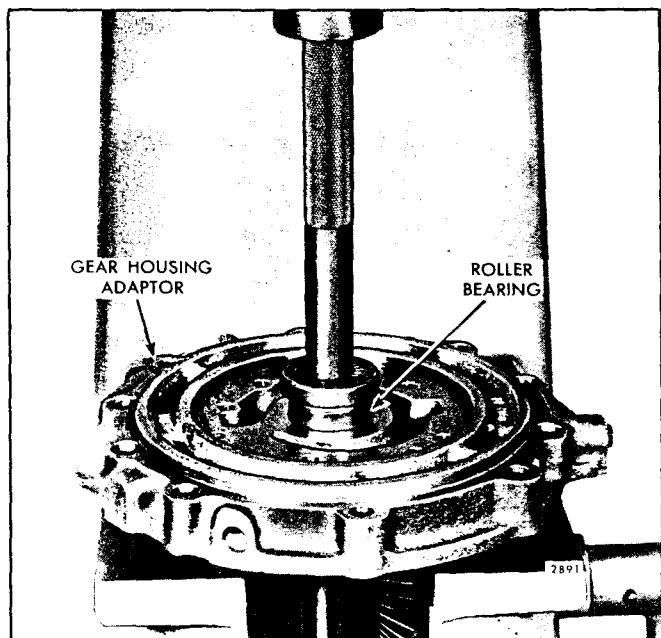

Fig. 75 - Installing Roller (Needle) Bearing in Gear Housing Adaptor
- b. Support the reverse gear housing adaptor with the bearing on the bed of an arbor press, with the rear face of the adaptor down as shown in Fig. 75.
- c. Place the bearing installer J 8561 with handle J 7079-2 in and on top of the bearing, with the end of the handle under the ram of the press as shown in Fig. 75. Then press the bearing straight into the adaptor until the installer J 8561 contacts the face of the adaptor.